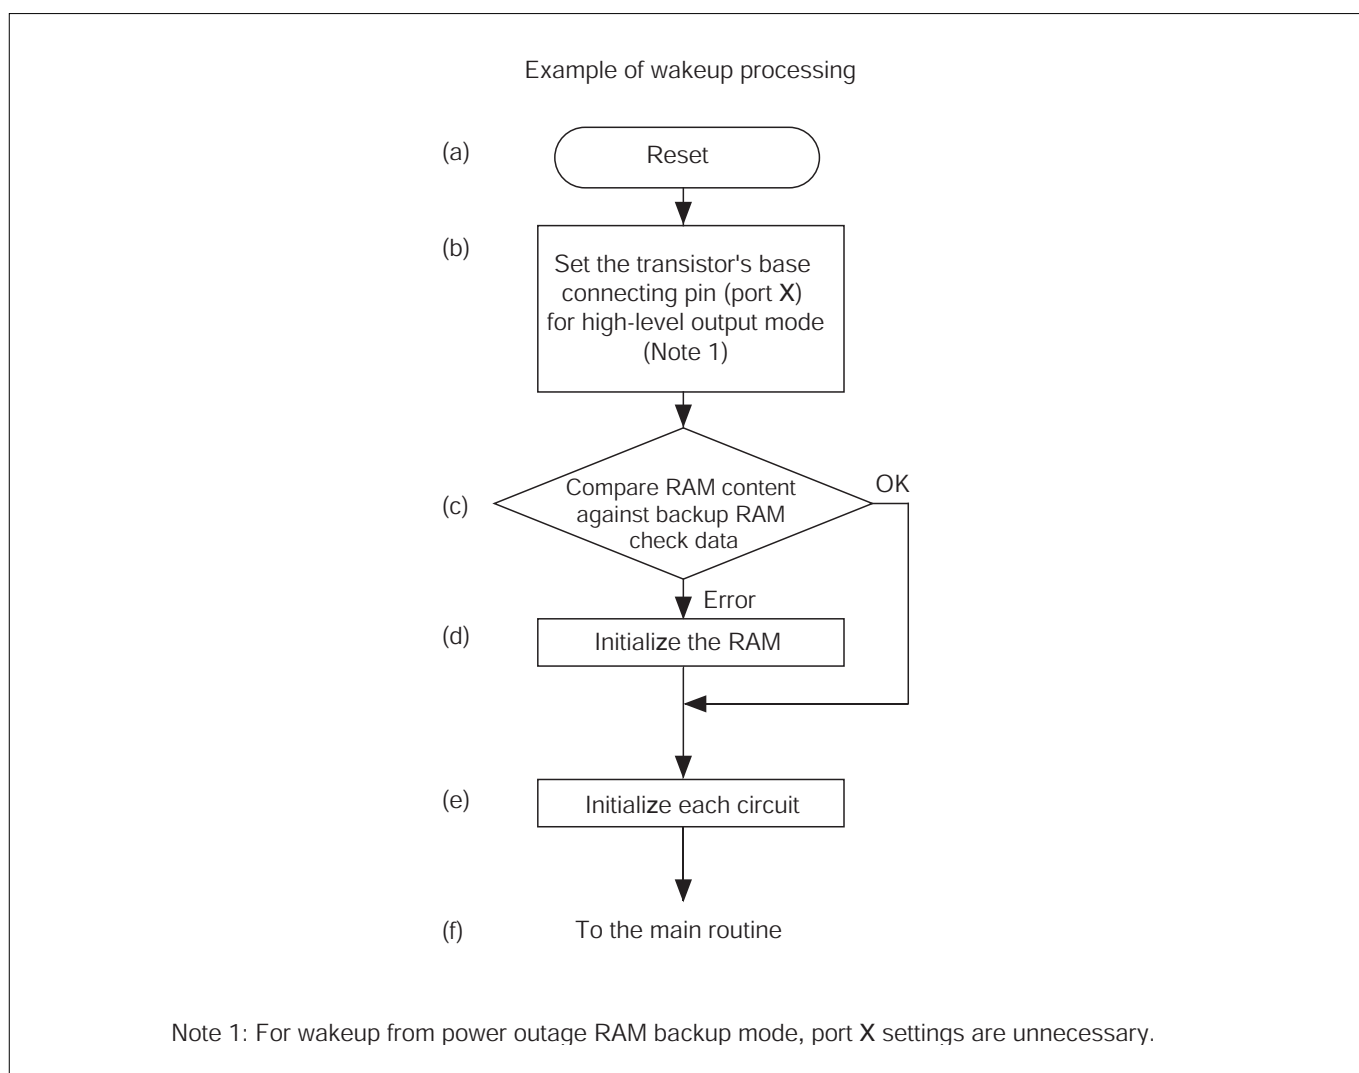

Figure 17.4.1 Wakeup Processing
The processing to place the M32R/ECU out of RAM backup mode and return it to normal operation mode is referred to as “wakeup” processing. Figure 17.4.1 shows an example of wakeup processing.
- (1) Reset the microcomputer ((a) in Figure 17.4.1).
- (2) Set port X for output mode and output a high from the port ((b) in Figure 17.4.1) (Note 1)
- (3) Compare the RAM content against the RAM check data created before entering RAM backup mode ((c) in Figure 17.4.1).
- (4) If the comparison in (3) did not match, initialize the RAM ((d) in Figure 17.4.1).
- (5) Initialize each internal circuit ((e) in Figure 17.4.1) before returning to the main routine ((f) in Figure 17.4.1).